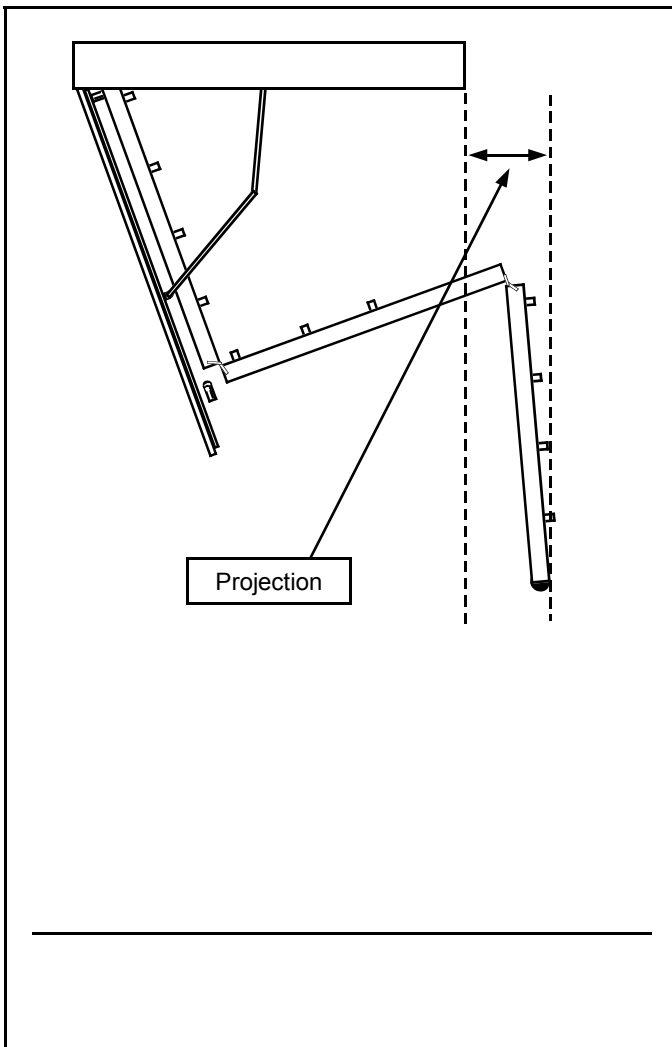

Figure 1
2. Determine whether the chosen location allows sufficient “projection” and “landing space” for your unit. See TABLE A below and Figure 1 & 2 on next page.